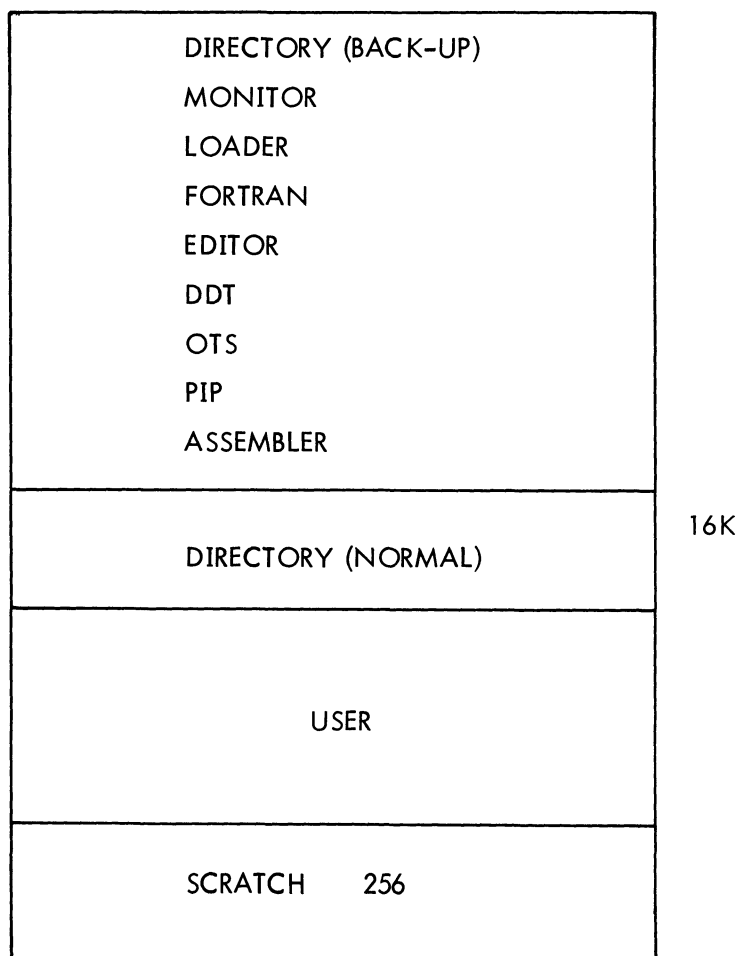
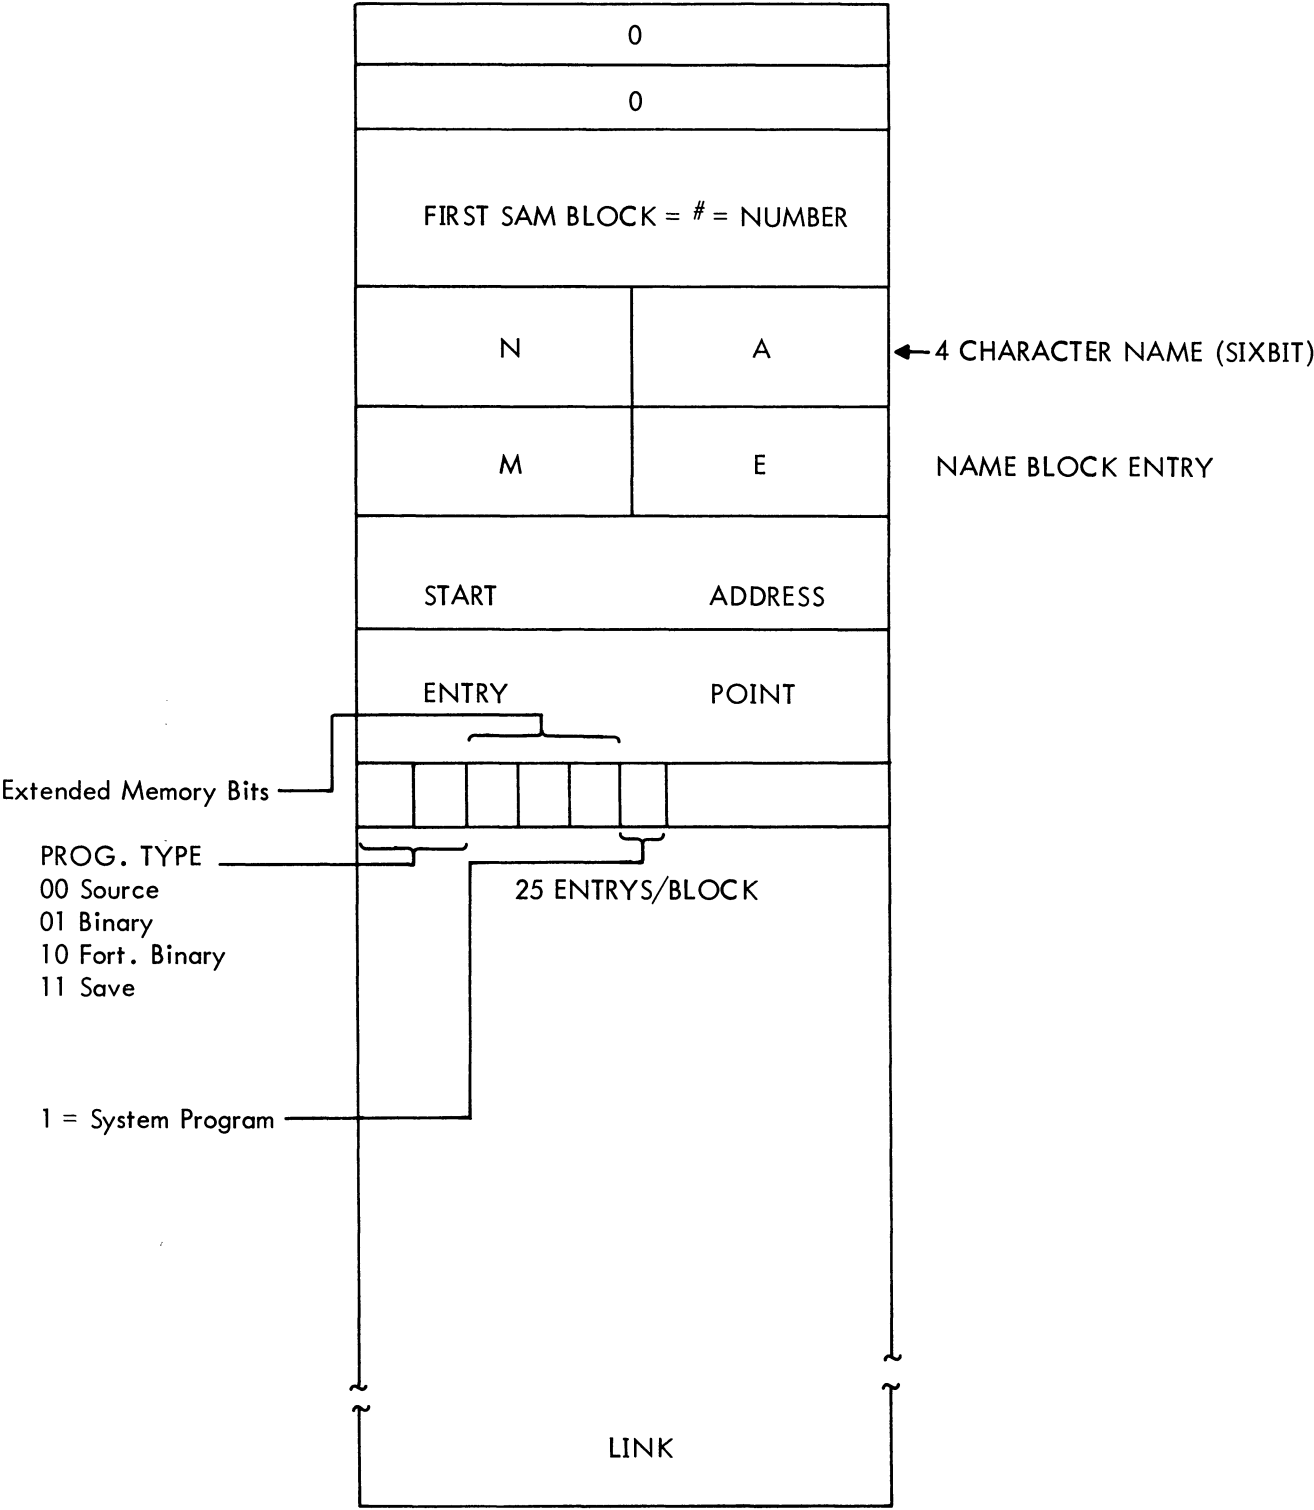

Figure 2 Mass Storage Configuration
Figure 3 Directory Name Block
5.2.1 File Structure - A relatively sophisticated file structure is implemented to allow for automatic retrieval of storage for use by the system and a requirement for a single DECtape system. (See Figure 2.) Two types of blocks are present - directory name (DN), and storage allocation map (SAM) blocks. The former are described in Figure 3, the latter in Figure 4. All blocks are linked with the end of chain line - 0. The top of the SAM block chain is addressed in all DN blocks. The SAM block is the item which allows automatic storage retrieval. Each DN entry has a SAM number between $1-77_8$. A zero means unused. A SAM block has a record of 256_{10} pages of mass storage (Figure 4). The first page of any numbered program is found by searching SAM blocks until an entry with matching number is found. To add to a file, find a SAM block entry equal to 0, insert the correct SAM number and adjust the storage block linking. To delete a block, the DN entry is cleared and the SAM block entries (equal to the DN number) are zeroed out.